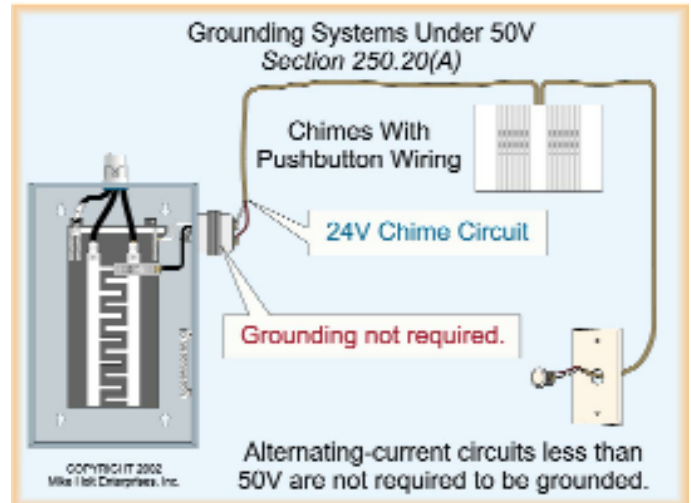

Figure 250-48
**(A) AC Circuits of Less than 50V.** Alternating-current circuits supplied from a transformer that operate at less than 50V are not required to be grounded unless:
- (1) The primary is supplied from a 277V or 480V circuit.
- (2) The primary is supplied from an ungrounded power supply.
**AUTHOR'S COMMENT:** Typically, circuits operating at less than 50V are not grounded because they are not supplied from a 277V or 480V system, nor are they supplied from an ungrounded system. Figure 250-48
**(B) AC Systems Over 50V.** Alternating-current systems over 50V that require a grounded (neutral) conductor shall have the grounded neutral terminal of the power supply grounded